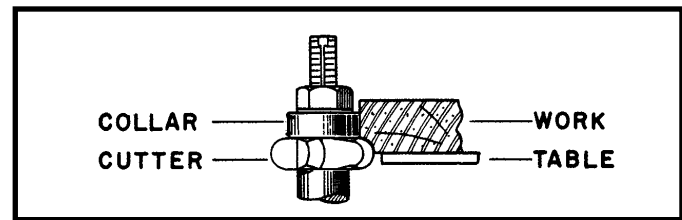

Fig. 32
3. When the collar is used above the cutter (Fig. 32), the operator will be unable to see the cut. However, the advantage in this method is that the cut is not affected by slight variations in the thickness of the stock. Also, accidental lifting of the work will not gouge the workpiece. Simple correction for the mistake is to repeat the operation.